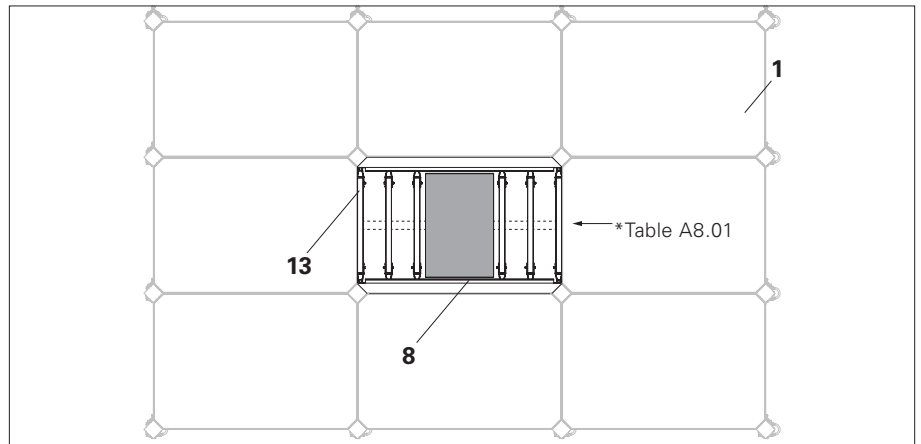
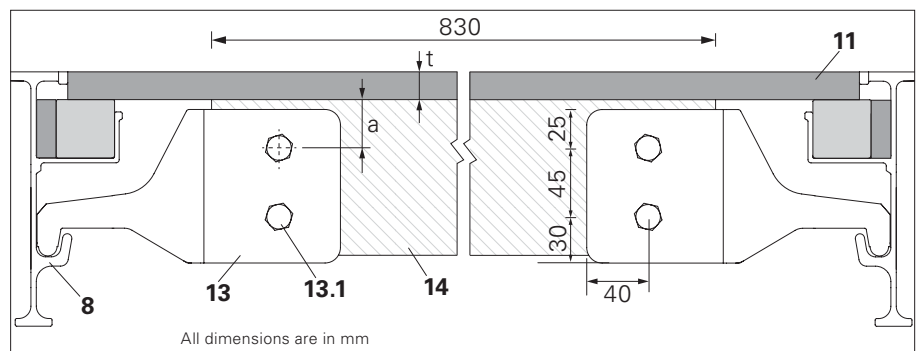
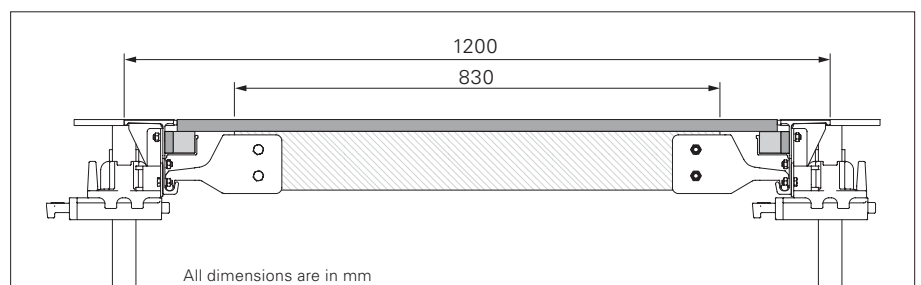

Fig. A8.01
Fig. A8.01a
Fig. A8.01b
1. Form the slab with panel ADP (1) as close as possible to the column.
2. Place the filler beam ADF (8) on the drophead flyplate pin in the longer direction. (Fig. A8.01)
3. Cut the timber (14) size 50 x 100 mm as per required length.
4. Pre-assembly of cross beam head (13) and timber (14) size 50 x 100 mm should be done on ground.
Drill the timber (14) and attach the timber to cross beam head with 2 no. of bolts and nuts (M10 x 80) (13.1) (Article no. 710593 and 710234) on each side. (Fig. A8.01a), (Fig. A8.01b) and (Table A8.02)